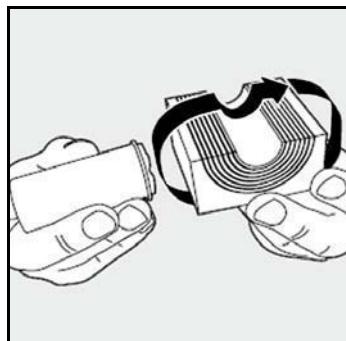

Figure 9-7. Greasing a Rextec Module
- Roxtec grease, used to assemble and seal the modules (Figure 9-7).